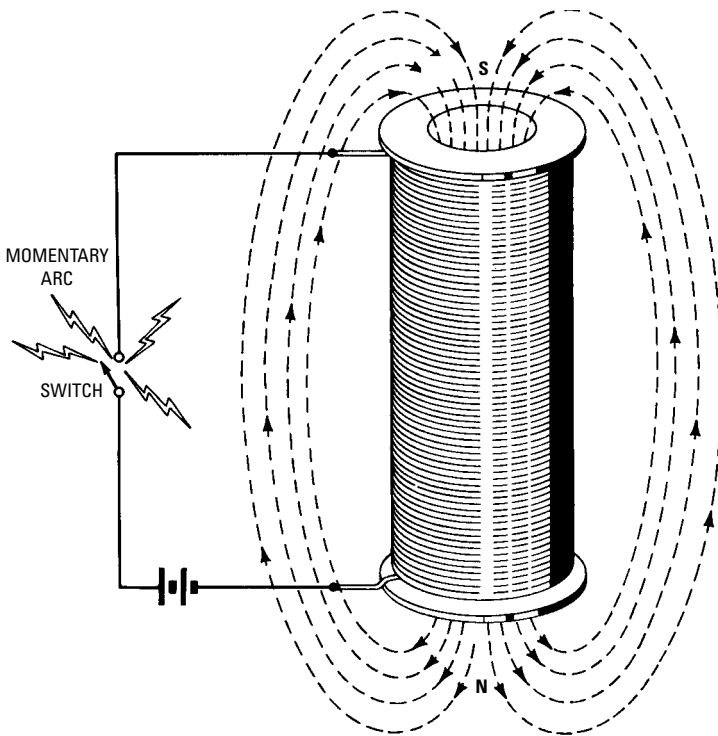

Figure 5-5 Self-induction causes arcing at the switch contacts.
opened. This circuit action is illustrated in Figure 5-5. When a larger electromagnet is used, the arc is hotter and larger. This circuit action is explained as follows:
1. When the switch is closed (Figure 5-5), current flows through the coil turns and builds up a magnetic field in the space surrounding the coil.
When a switch is closed in a circuit containing a coil, the current rises to a steady value after a short length of time. A magnetic field has then been built up in the space around the coil. Next, when the switch is opened, we know that a momentary arc is produced between the switch contacts, as shown in Figure 5-5. Electricians call this self-induced current a *switching surge*. We will now observe how much time it takes the current to build up in a coil circuit such as the one shown in Figure 5-17A when the switch is closed. If a small coil is used, the current builds up fast. On the other hand, if a large coil is used, the current builds up slowly.